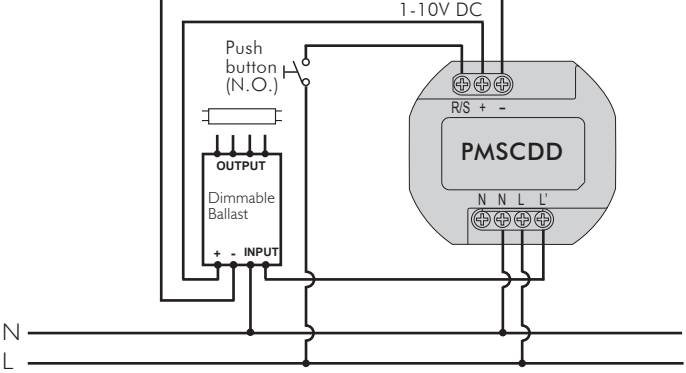
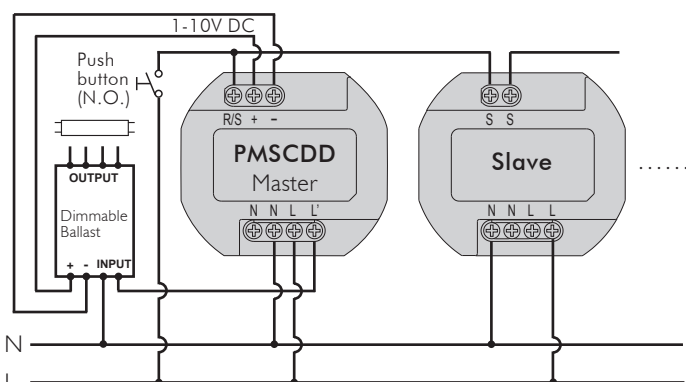
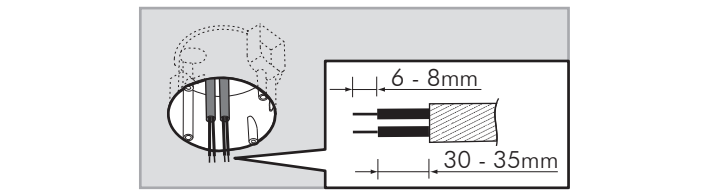
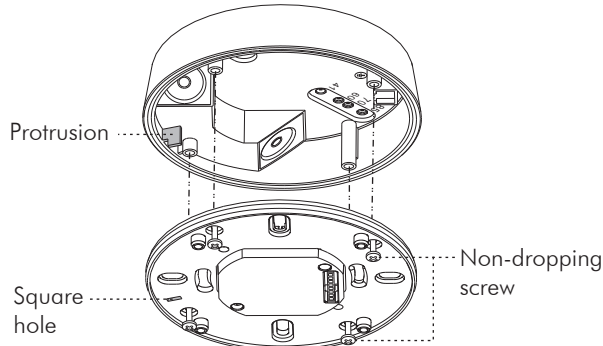

FIG.5
FIG.7
FIG.9
FIG.18
- 3.3.1.1 Normal operation (See FIG.5)
- 3.3.1.3 Master / Slave operation (Max. 10pcs slave detectors can be connected to R/S terminal of the master detector) (See FIG.7).
- 3.4.1.2 Pull out AC power cables from European standard junction box (See FIG.9), then strip off 6 - 8mm of cable sheathing for wiring (See FIG.5 - FIG.7).
- 3.4.2.3 Please refer to illustration of FIG.5 - FIG.7 for correct wiring and then screw the SP-96 tightly.
3.4.3.5 Refer to wiring diagrams for correct wiring connection (See FIG.5 - FIG.7). There is a square hole in the fixing plate, when you put the fixing plate into the junction box, please fit the fillister to the junction box's protrusion (See FIG.18), then fix the detector head on the power box following FIG.5 and assemble them with the attached 4pcs non-dropping screws.